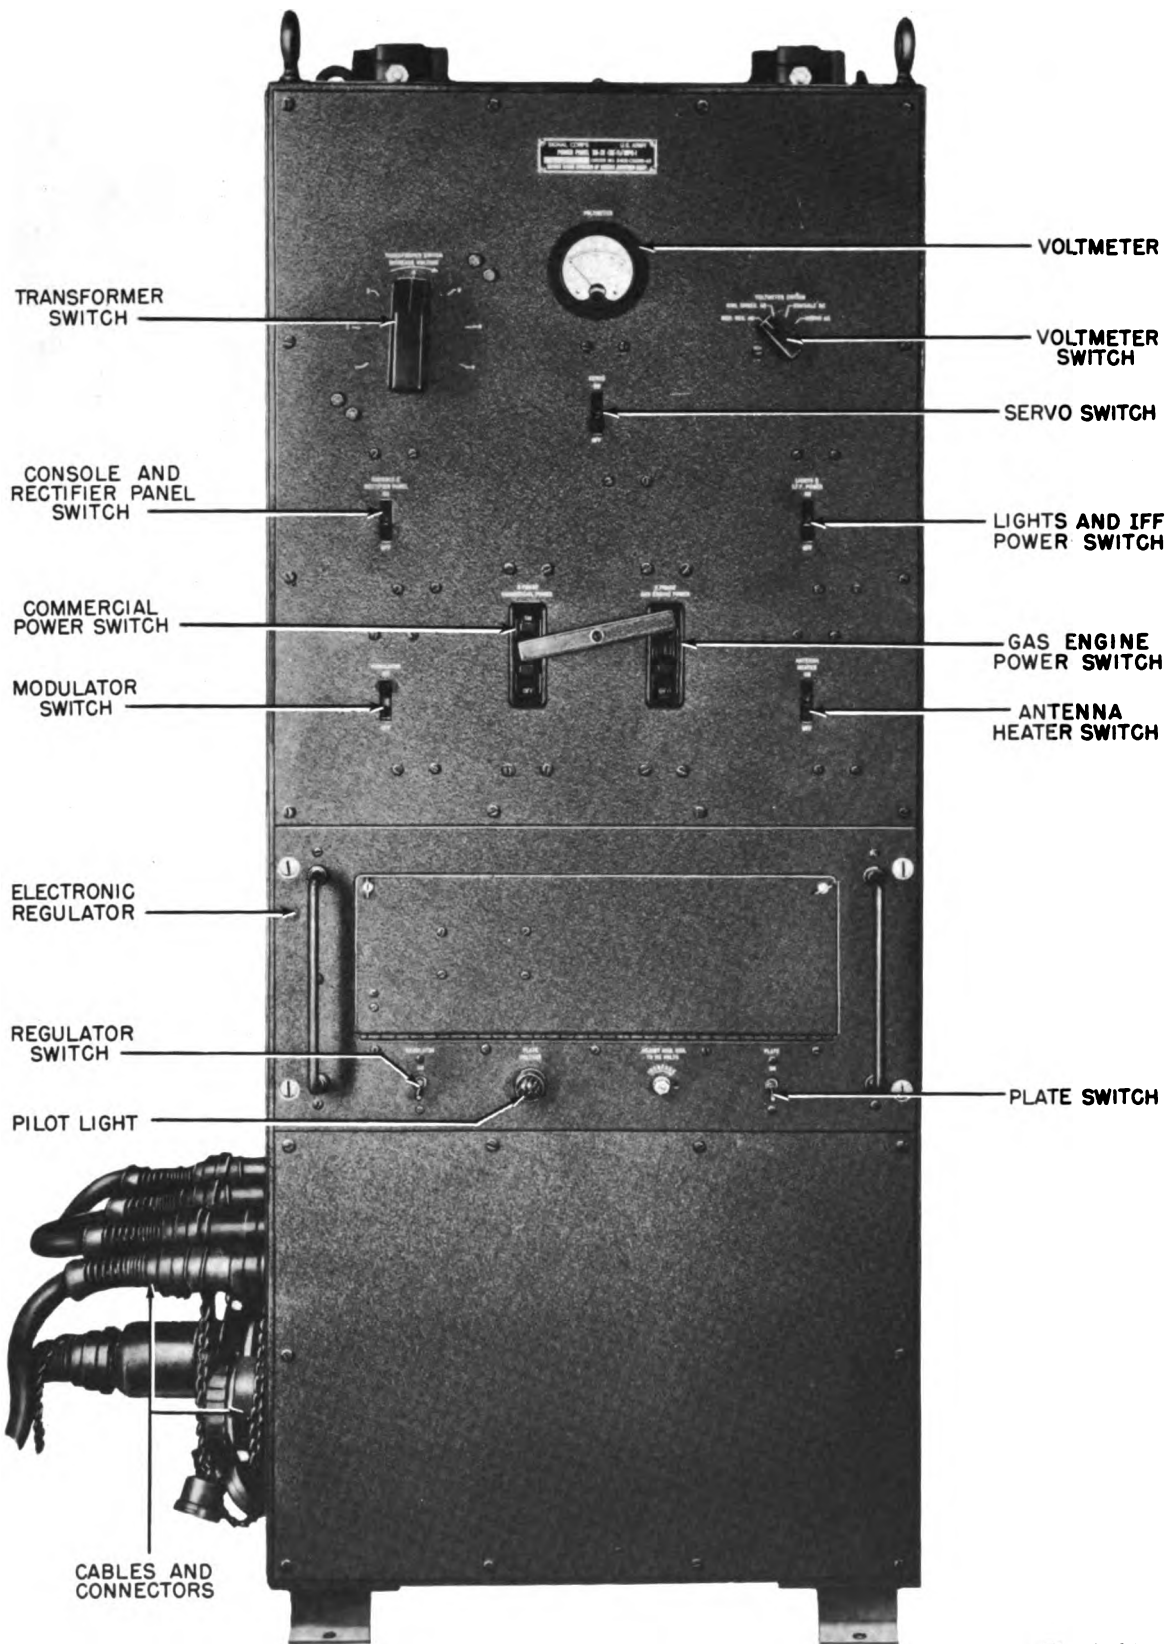
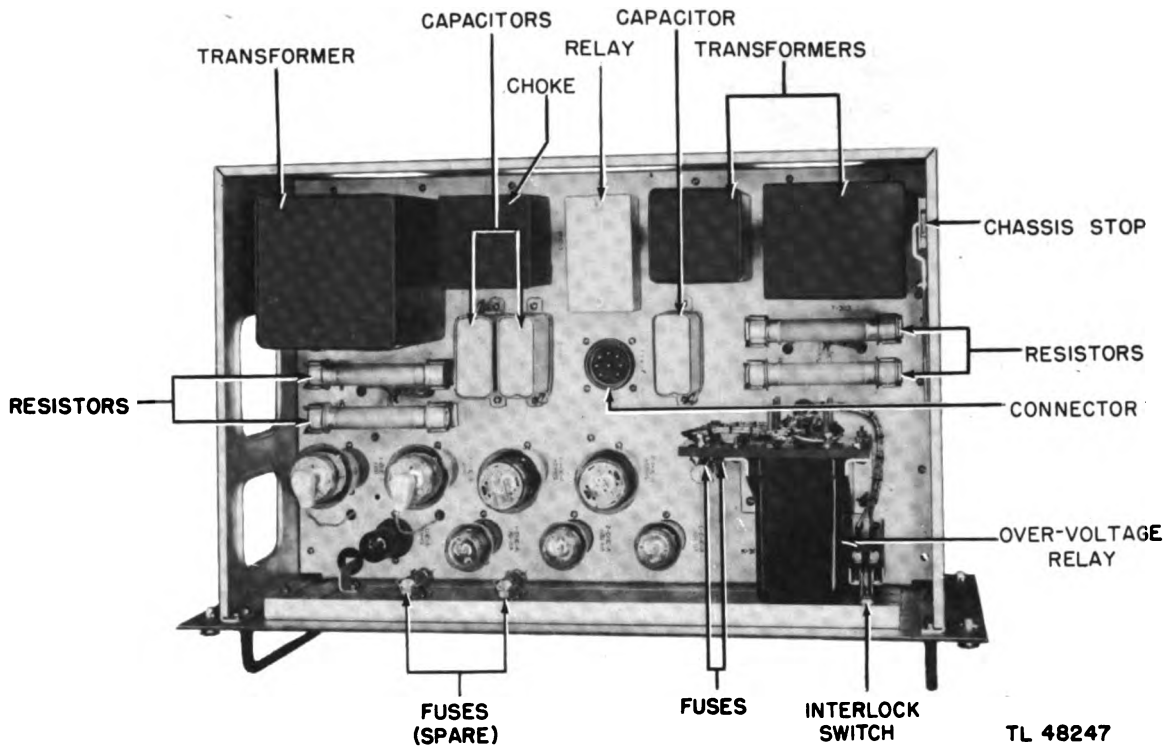

Figure 4-45. Power panel, front view.
Figure 4-46. Electronic regulator, top view.
b. Maintenance Procedure (fig. 4-45).
(1) The outside of the cabinet for damage and dirt (par. 2-20).
(2) The assembly screws around the sides of the chassis for looseness.
(3) The safety mountings at the bottom and top of the rack for looseness.
(4) The connectors for loose mounting, damage, and corrosion (par. 2-9).
(5) The ventilating screens for corrosion, dirt, and insecure mounting (par. 2-20).
(6) The control knobs for looseness.
(1) Remove the three large cables near the bottom of the power panel cabinet before working on the regulator (fig. 4-45).
(2) Remove the electronic regulator chassis from the power panel.
b. Maintenance Procedure (figs. 4-46 and 4-47).
(1) Remove the three large cables near the bottom of the power panel before working inside the chassis (fig. 4-45).
(2) Remove the side panel above the cables.